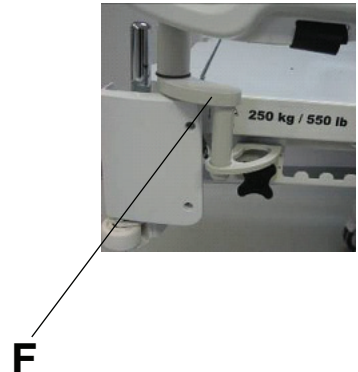

Figure 128: Attaching the tray support
4. Attach the tray support pole into the bracket (F) and into the socket at the head end or foot end of the product (Figure 128 on page 112).